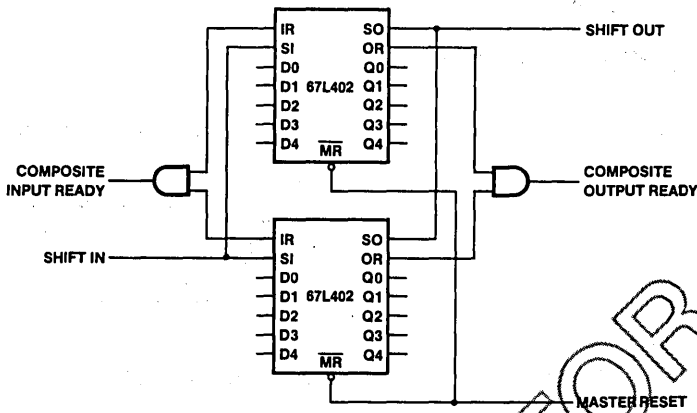

Figure 11. 64x8 FIFO With 67L402's
After power up the Master Reset is pulsed low (Fig 11) to prepare the FIFO to accept data in the first location. When Input Ready (IR) is HIGH the location is ready to accept data from the  $D_x$  inputs. Data then present at the data inputs is entered into the first location when the Shift In (SI) is brought HIGH. A SI HIGH signal causes the IR to go LOW. Data remains at the first location until SI is brought LOW. When SI is brought LOW and the FIFO is not full, IR will go HIGH, indicating that more room is available. Simultaneously, data will propagate to the second location and continue shifting until it reaches the output stage or a full location. The first word is present at the outputs before a shift out is applied. If the memory is full, IR will remain LOW.